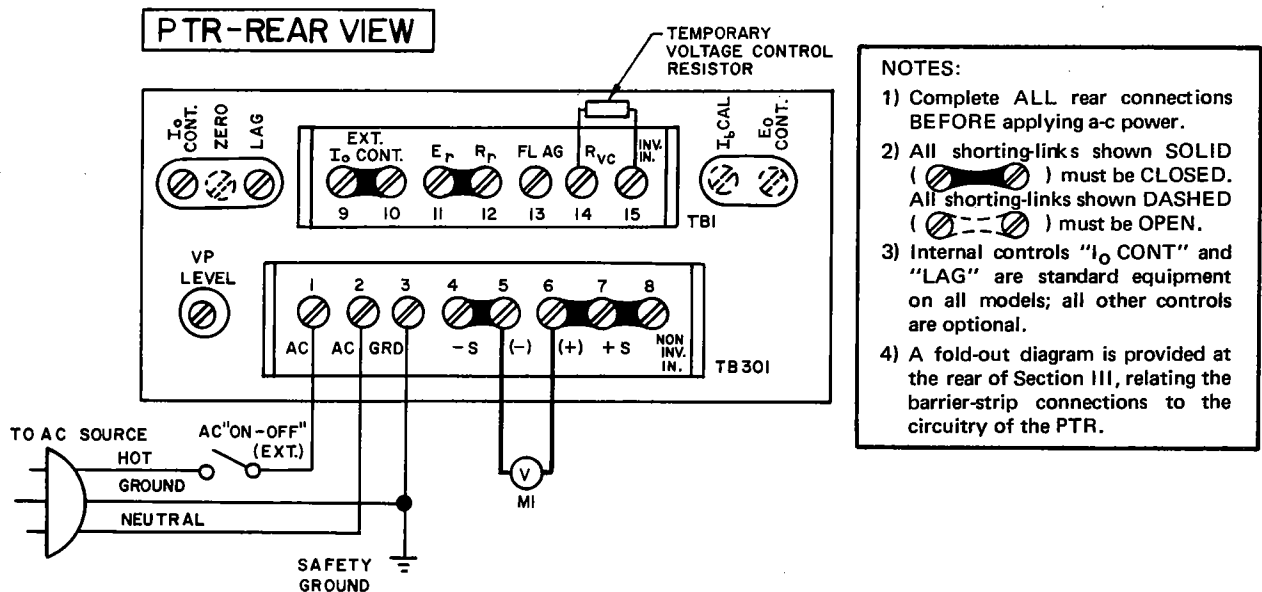

FIG. 2-3 OPERATIONAL CHECKOUT.
Connect an external voltmeter (M1) to terminals (5)–(6) as shown in FIG. 2-3. Connect a line cord to terminals (1)–(2) with the ground wire to terminal (3).
3-28 GENERAL. The PTR Power Supply is shipped from the factory with (5) removable jumper links and a small resistor in place at the rear barrier-strips (refer to FIG. 2-3). The resistor is a temporary voltage control resistance which provides (approximately) rated output voltage. This resistor is provided for preliminary check-out purposes and should be replaced by a high quality component having a temperature coefficient of 20 parts per million or better (approximately 1000 ohms for each volt of output required, see par. 3-29), before stability measurements or actual operation of the power supply. *All terminal screws on the barrier-strips must be secured tightly*, since loose connections may cause malfunction of the power supply.